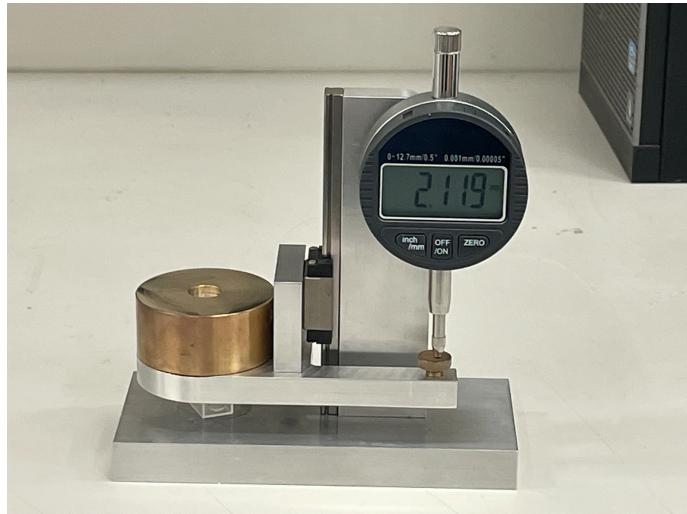

Figure 5: Illustration of the compression set-up used for measuring the mechanical properties of agarose hydrogel.
- Raise the upper platen on the test rig (which slides up and down along a linear bearing), and place the sample centrally beneath the round pin in the platen on which the masses locate - see Figure 5. Place a metal shunt of 16 mm under the edge of the platen, and lower it to ensure it just makes contact with the sample. Once the sample is in position, turn on the gauge by pressing on/off, and ensure that it is set to mm.
- Place the weight on the pin above the sample (Figure 5). Ensure that you have noted the weight and which sample you are running, and zero the gauge by pressing "Zero". The main changes to the gel happen in the first 20 seconds of the test. To be able to capture this, it is best to record the first 40 seconds on a phone. Have one person record while the other starts the experiment. You will need to log change at 1, 5, 10, 15, 20, 30 and 40 seconds, then every 20 seconds after that for a total of 6 minutes. Set up a timer next to the gauge and start it. As it hits 10 seconds, remove the shunt to start the test. Remember that all times will be 10 seconds off from the clock.